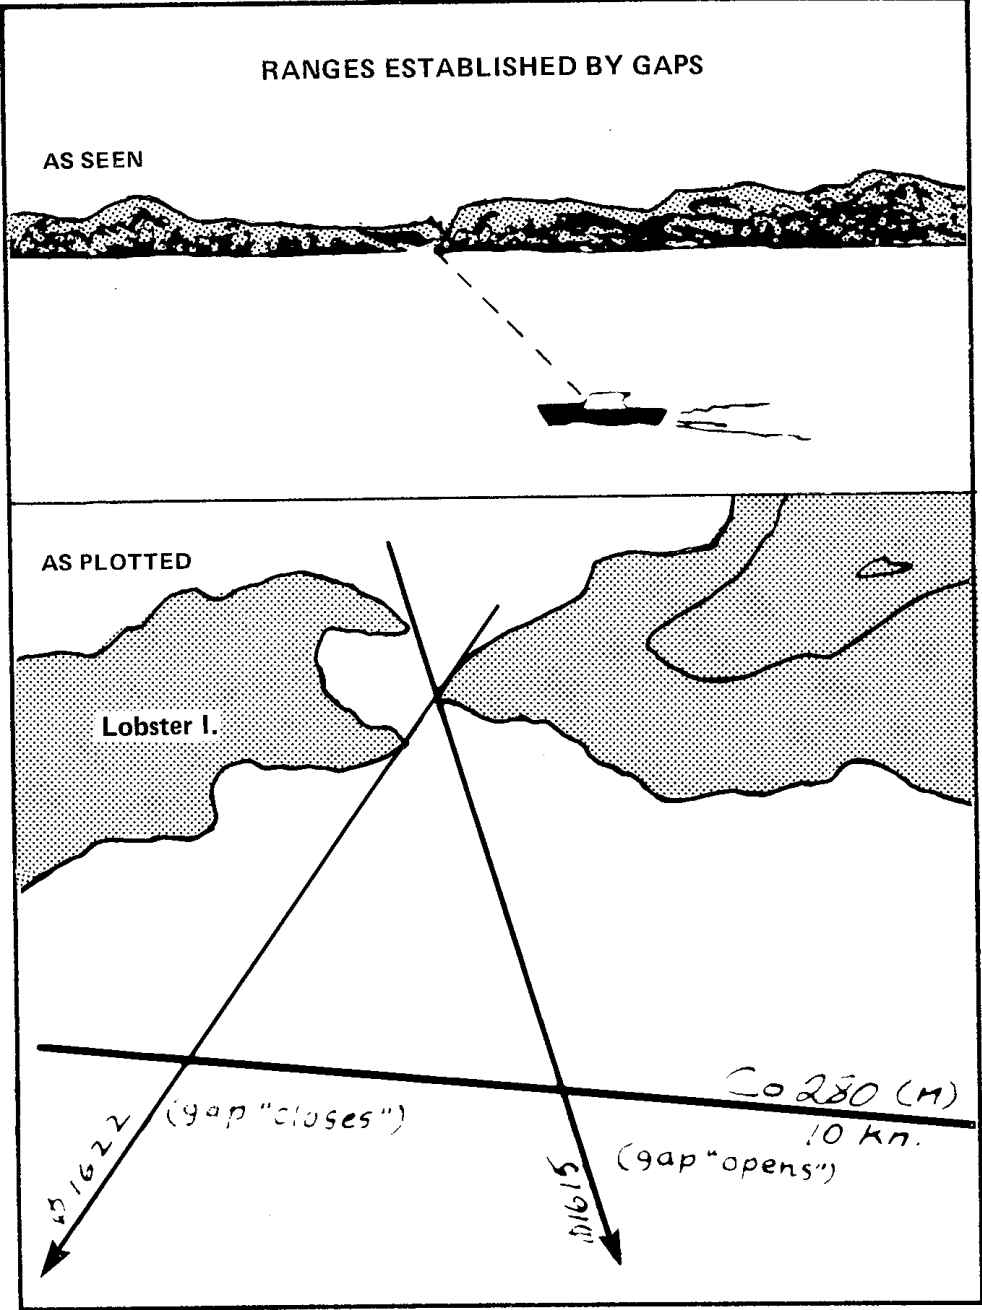
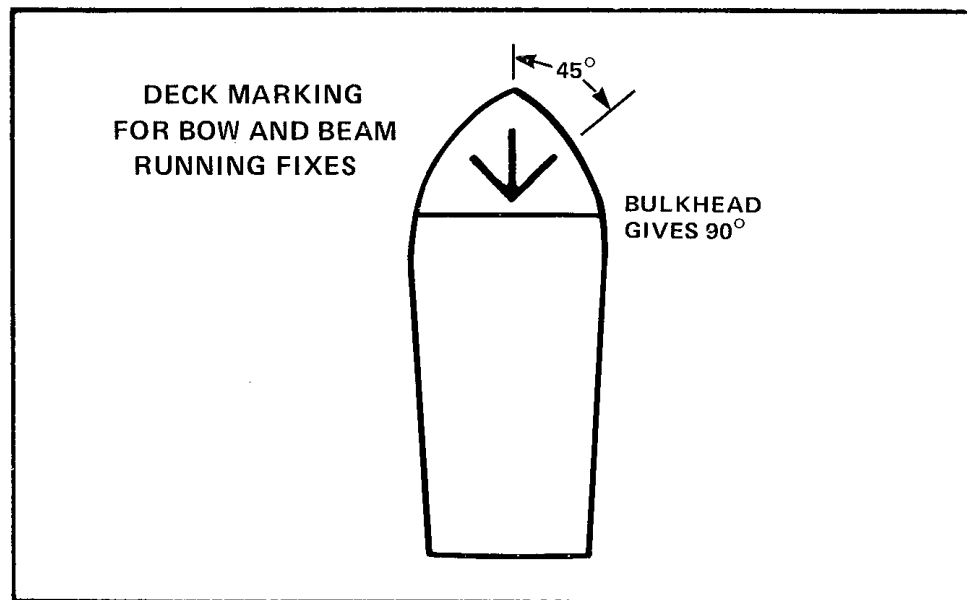

Figure 7-26 Ranges Established by Gaps
Figure 7-34 Deck Marking for Bow and Running Fixes
91. **Observing Transits** — Transits may be observed on available natural aids as well as man-made aids. In Figure 7-26 two transits are illustrated: one **when the gap between the islands opens** and one **when it closes.** In Figure 7-34 two more ranges appear, formed by the **headland** and **each end of the island.** The alert pilot is continually watching for ranges which are easily and definitely identified. Radio towers in line, a point and a mountain peak, a jetty and a spire — all provide him with valuable information.
place at different times. The simplest of the running fixes is the **Bow and Beam Bearing** or the **Four-Point fix**, so called because observations, with the time, are taken on the same object, first when it bears 045° relative, or is **broad on the bow** and second when it is abeam — **when its bearing has changed by “four points” of the compass of 45°** . The point system having become obsolete, this fix is better called the **bow and beam bearing**. Even a small boat can have marks laid out on her deck to define the direction “broad on the bow” which is 45 degrees abaft of dead ahead, and “abeam”, 90 degrees to the ship’s keel. Using these marks, or the pelorus the procedure is as follows. (See Figure 7-34.)